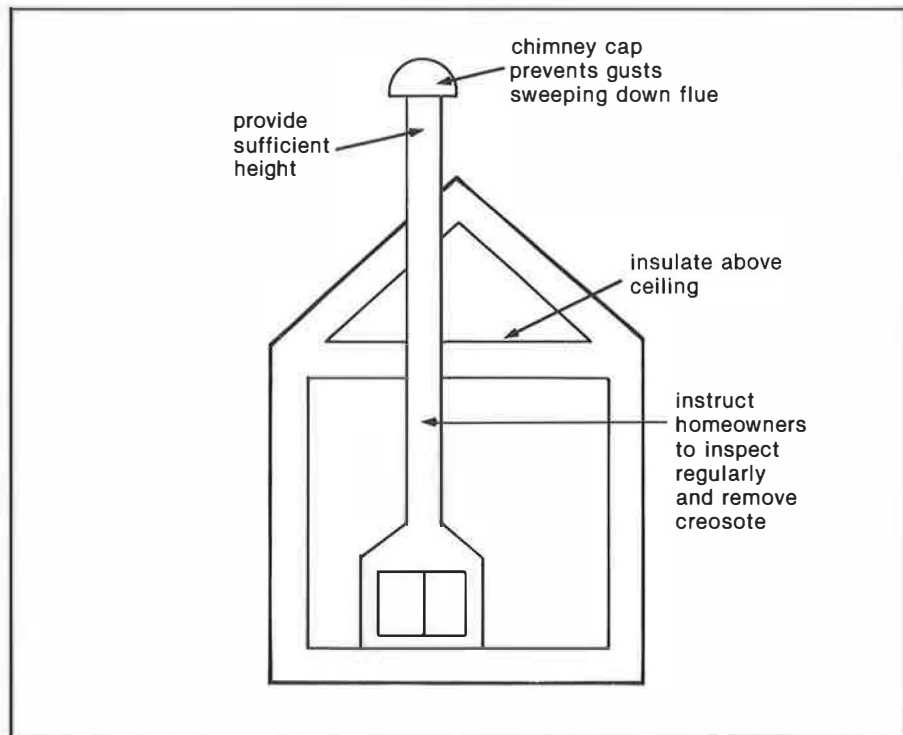

Fig. 23. Chimney construction.
- Keep the chimney on an interior wall and insulate the chimney above the ceiling line to reduce cooling. A warmer flue will suffer less from acidic condensation and blockage caused by gradual icing of the chimney outlet (fig. 23).